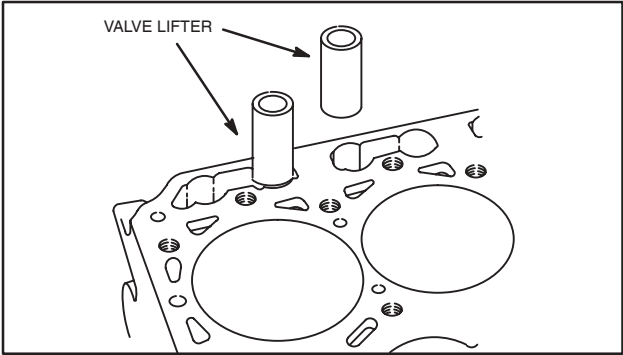

Fig. 3 – Removing Valve Lifters
- 6. Remove valve lifters, Fig. 3.